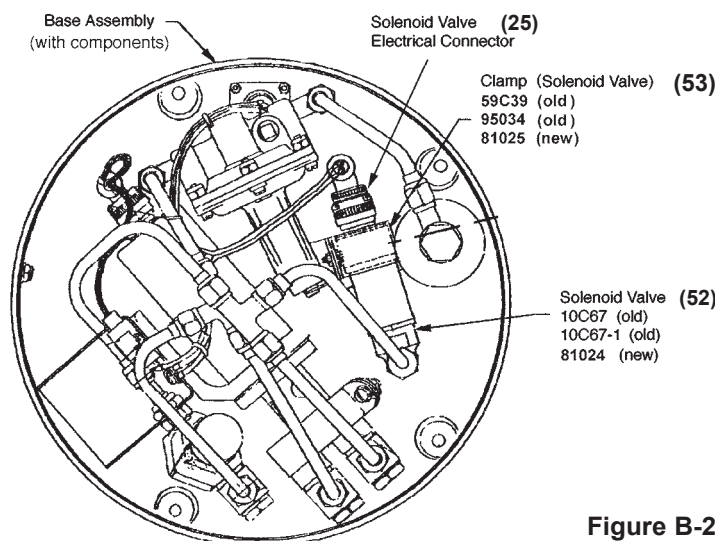

Figure B-2 - Base with components
- (2) Remove the screw (6) from the outer side of the jacket (9) and the four nuts (1) and washers (2) from the base and rock slightly to remove. If the unit is old, the preformed packing (10) may stick. Use a soft mallet and tap around the jacket circumference while hand pulling on the base. Do not pry using metallic tools as damage may occur to the base or jacket. Remove preformed packing (10) and discard.
- (3) Locate the solenoid valve clamped to the base as shown in Figure B-2.
- (4) Cut the safety wire and disconnect the electrical connector (25) from the mating connector on the solenoid valve (52).
- (5) Disconnect the B-nuts and remove the fuel tube (12).